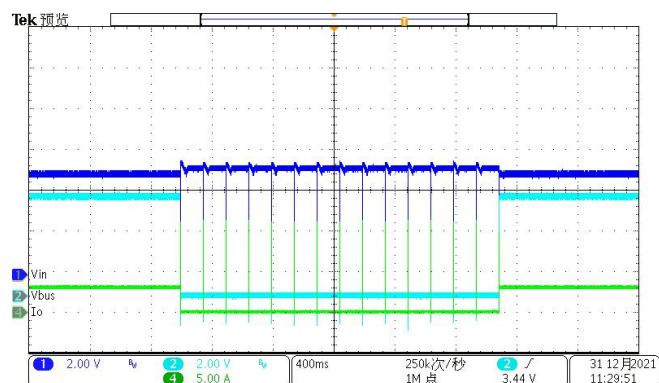
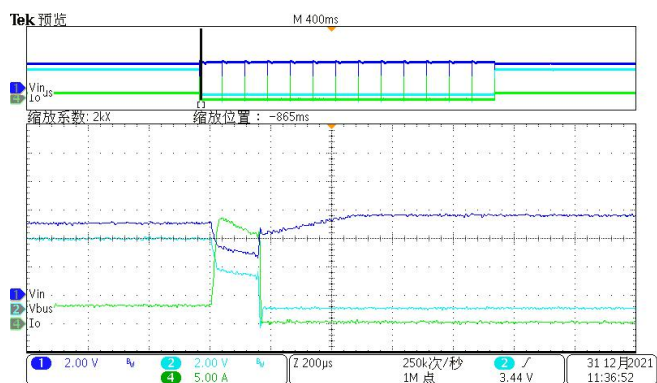

Figure7. short-circuit load test wave
Figure8. the detail wave of the short-circuit load test
4. Next step, put off the 1000uF capacitor, power on the 5V3A AC-DC adapter, set the electronic load to short-circuit mode, and then release the short-circuit mode, grab the above waveform as shown figure7 & figure8.